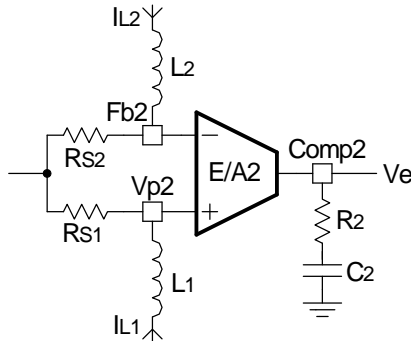

Fig. 21: The Compensation network for current loop
As shown the $G(s)$ is a function of inductor current. The transfer function for compensation network is given by equation (24), when using a series RC circuit as shown in figure21.